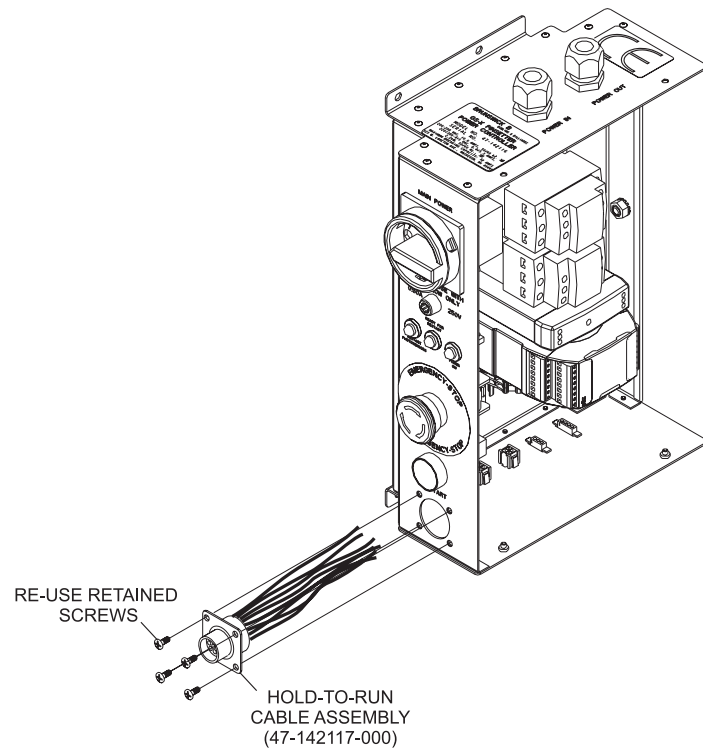

Figure 3
3. Install hold-to-run cable assembly into safety controller with the 4 screws from step 1. Refer to *Figure 3*.